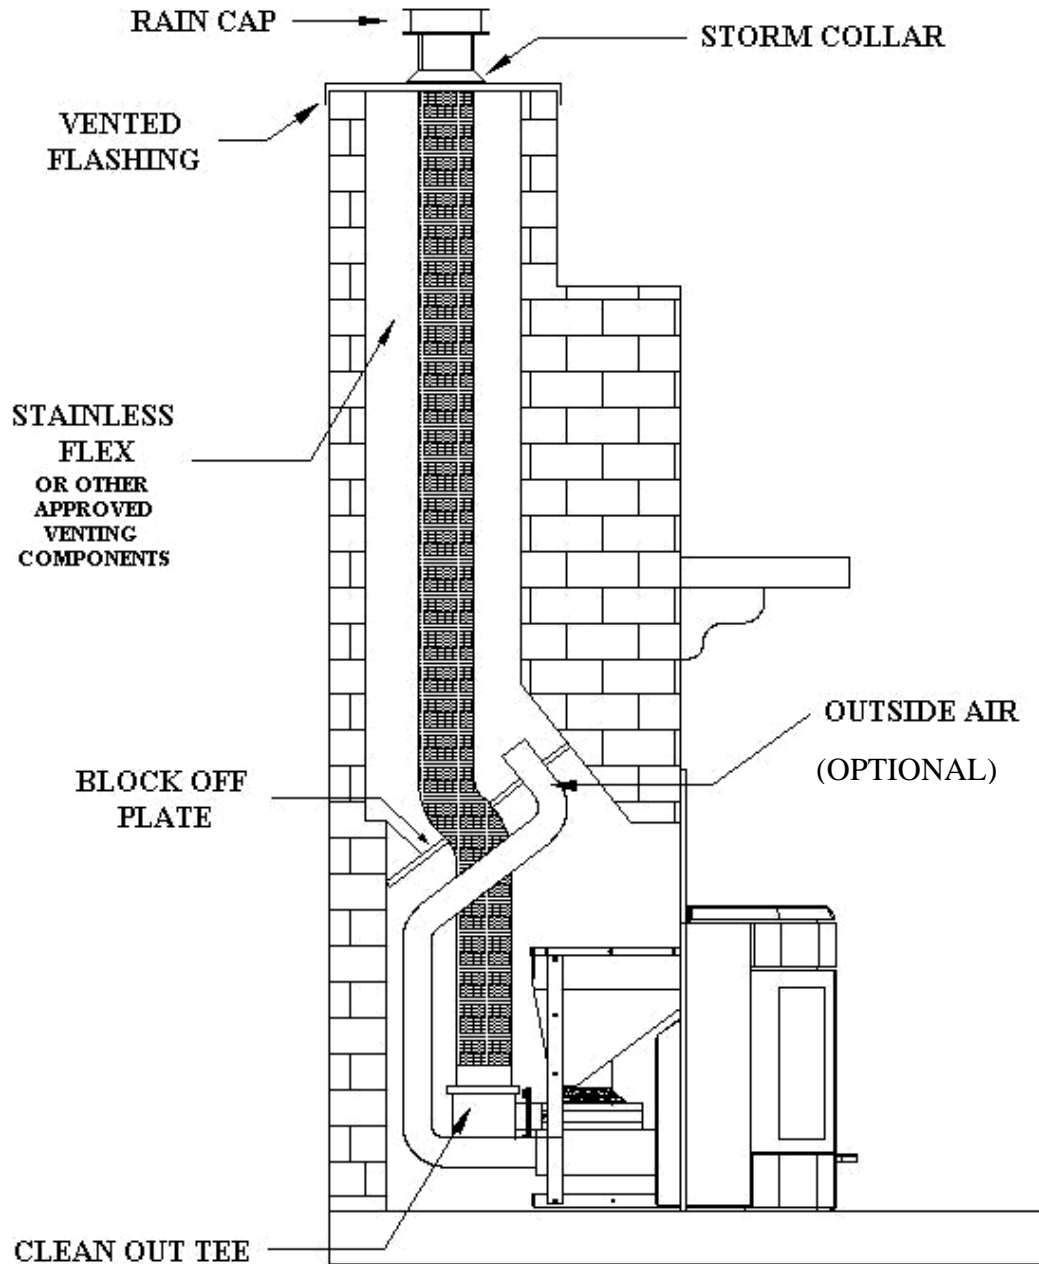
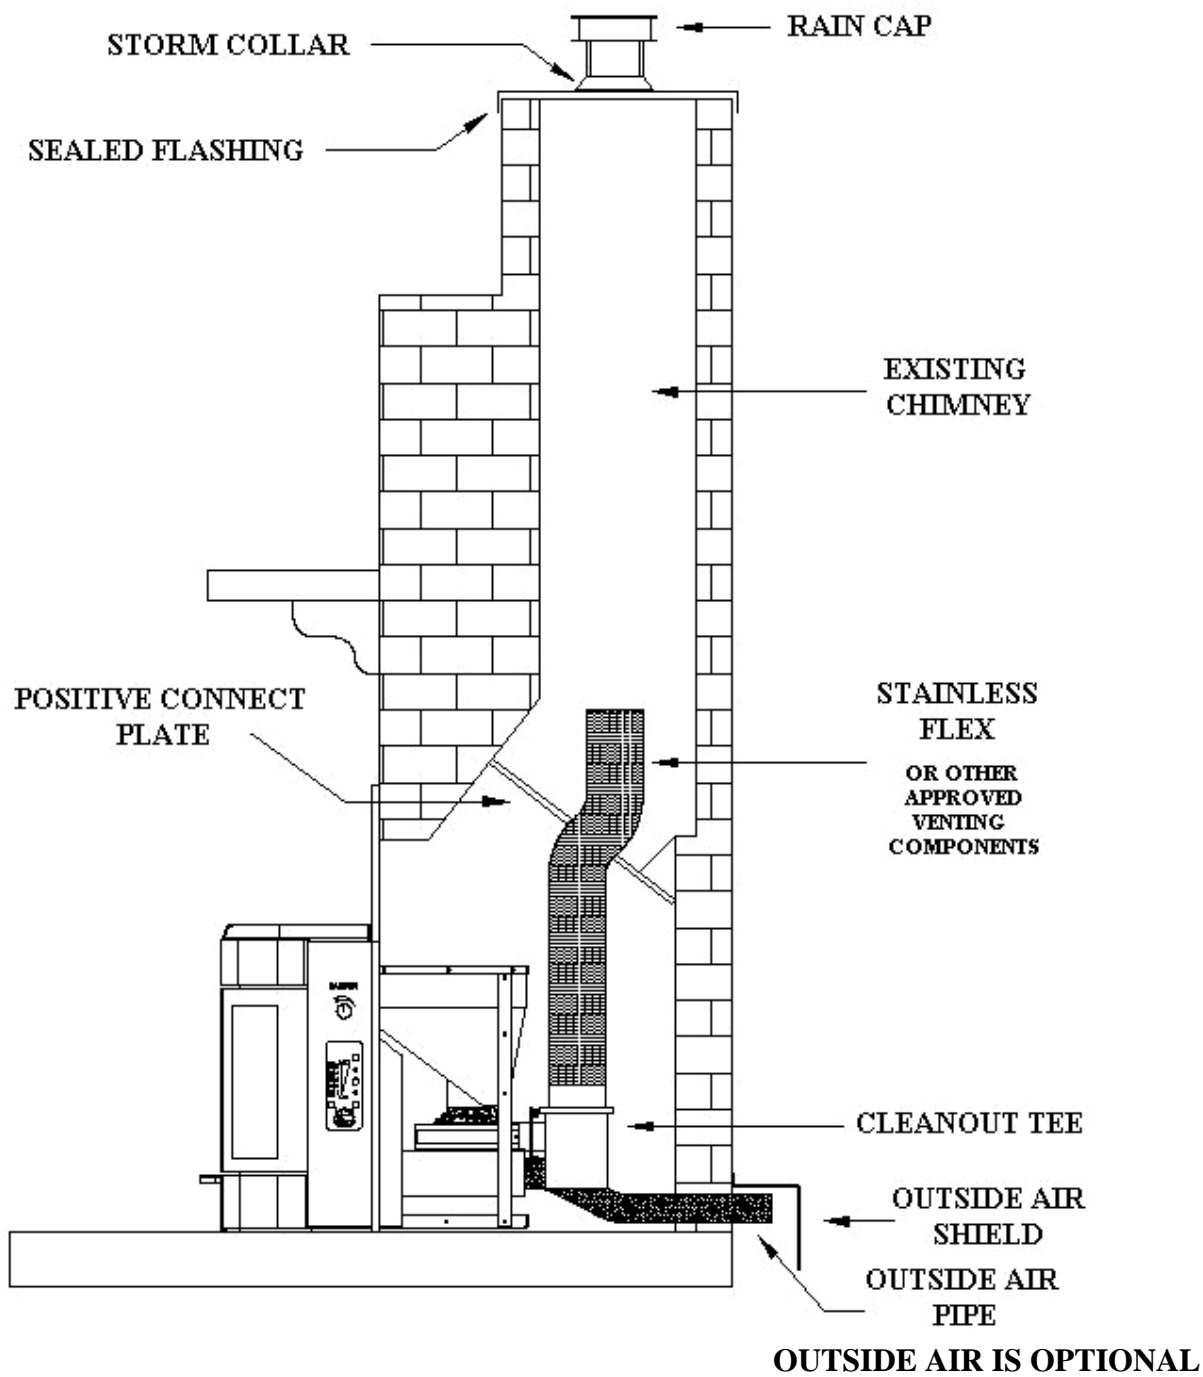

Figure 9
Figure 10
1. It is recommended that the vent system of the existing Masonry or Zero-Clearance fireplace be fully relined using 4” stainless steel flex (*See Figure 9 on Page 12*). A positive connection to the existing chimney system may also be used, by blocking off the opening to the chimney with metal plate and connecting the flex directly to the positive connect plate (*See Figure 10 on Page 13*).
4. Electrically ground the insert to the metal chassis of the home. Use a number eight, (8), gauge or larger copper wire, (Y).
9. See Figure 9 for detail on how to vent the unit and provide outside air for combustion. Approved Venting materials are Single Wall Stainless, Stainless Flex and PL Vent.